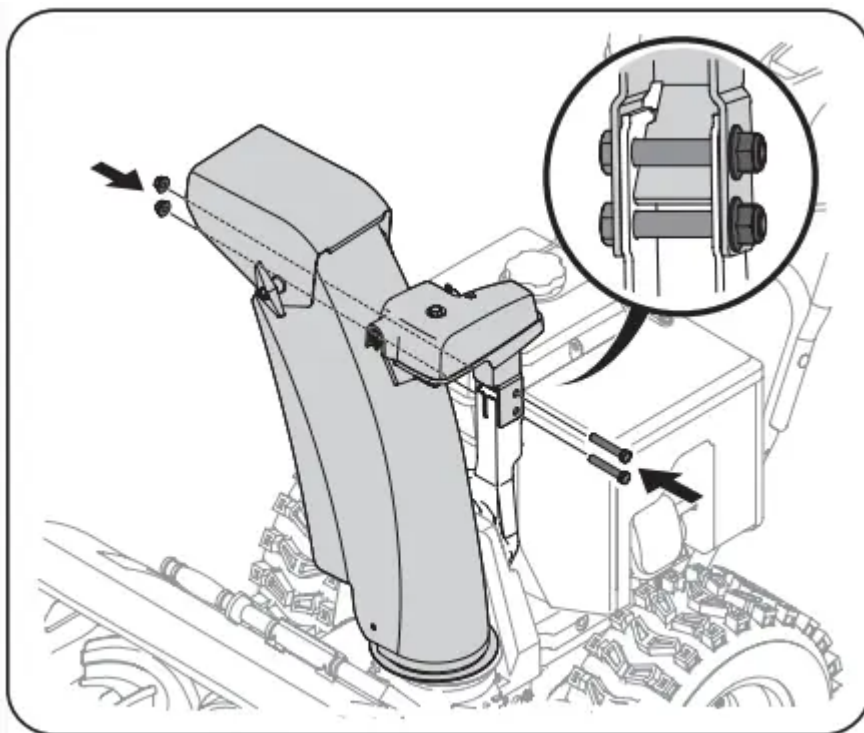

Figure 28
3. Secure chute control head to chute support bracket with lock nuts and hex screws removed in Step 1. See Figure 28